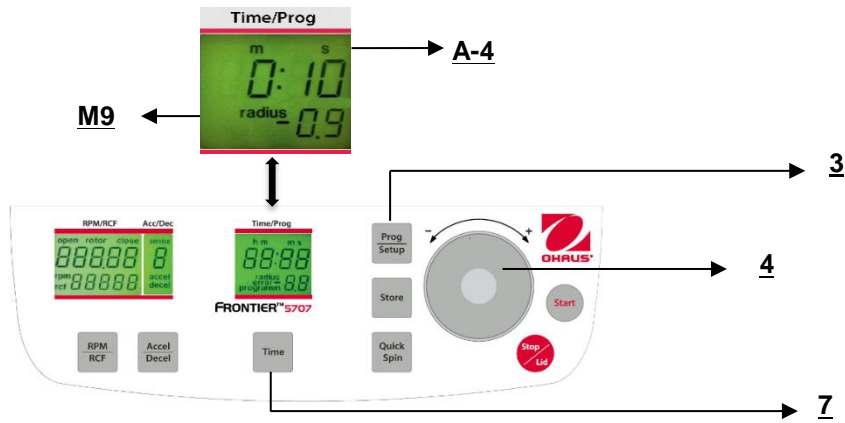

Figure. 19
Close the lid, then press the key "Time" (7) (refer to figure 19) and the key "Prog/Setup" (3) at the same time and hold them.